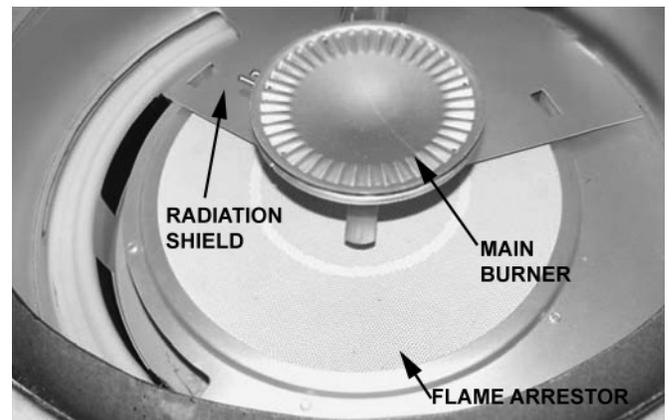

Figure 4
7. Inspect the radiation shield (thin circular metal sheet under the burner and above the flame arrestor), see Figure 4. If any of the sides of the radiation shield are touching the base (disrupting air flow), install 1/2-inch high feet under the radiation shield. To obtain the feet free of charge, contact Residential Technical Assistance referencing the number in your manual.